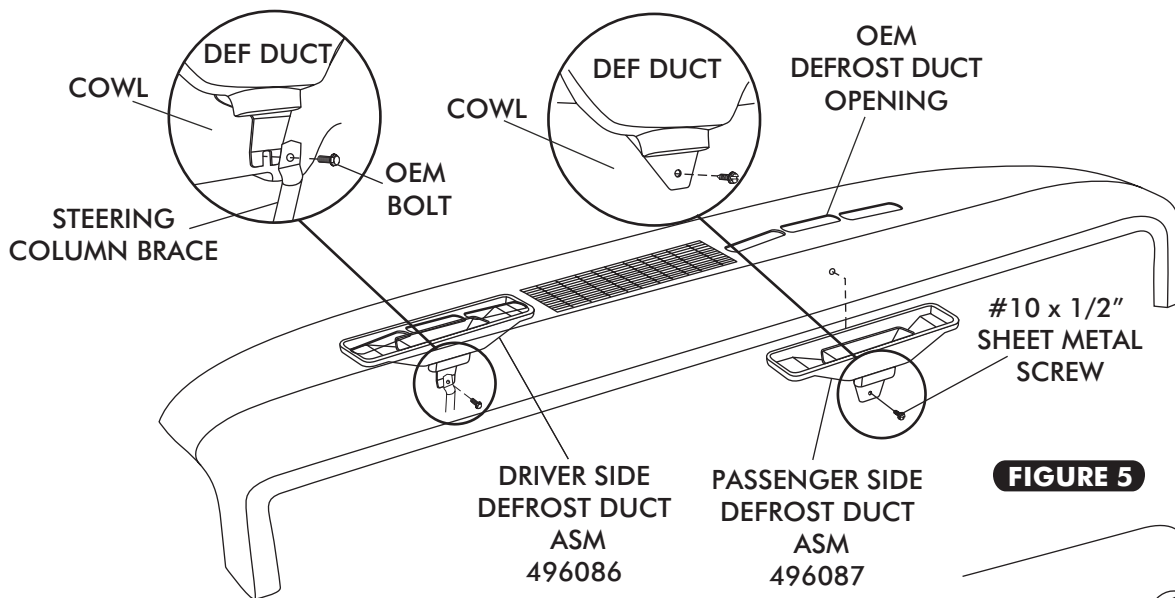

FIGURE 5
- INSTALL DEFROST DUCTS UNDER DASH AND ALIGN WITH OEM OPENING. INSTALL THE PASSENGER SIDE DEFROST DUCT TO COWL USING #10 x 1/2" SHEET METAL SCREWS. SEE FIGURE 5 BELOW. **NOTE: DRIVER SIDE DEFROST DUCT INSTALLS BEHIND STEERING COLUMN BRACE AND SECURES USING STEERING COLUMN OEM BOLT AS SHOWN BELOW.**